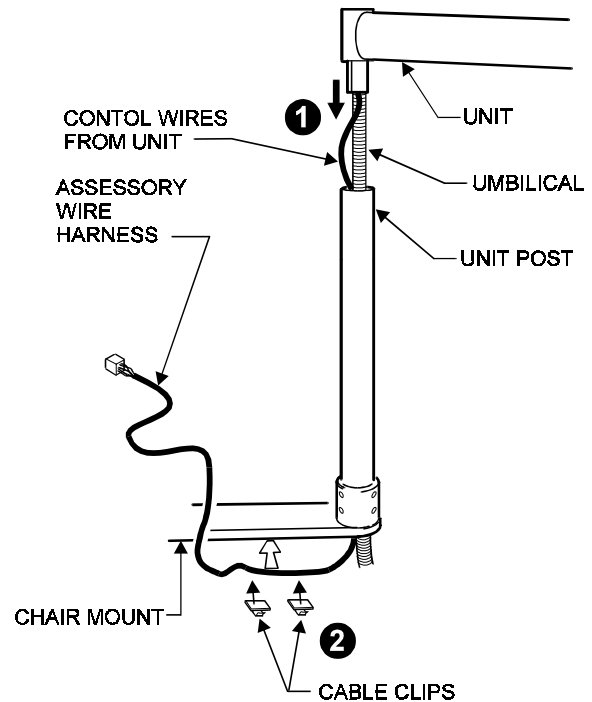

Figure 1
1. As you installing the unit, pass the cable down through the unit post and out the bottom of the chair mount (See Figure 1).
2. Run the control cable along the bottom of the chair mount and attach it to the underside of the chair mount with cable clips (See Figure 1).